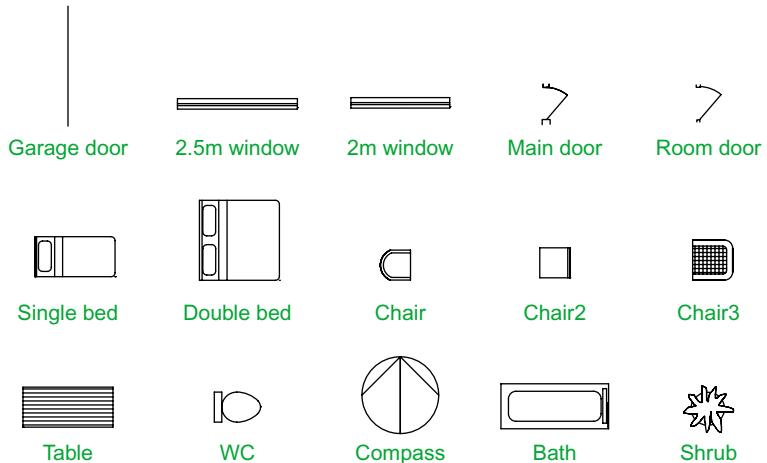

Fig. 9.1 First example – Blocks – symbols to be saved as blocks
1. Construct the building symbols as shown in Fig. 9.1 to a scale of 1:50.